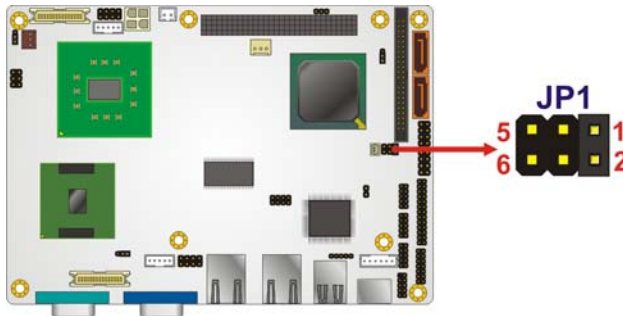

Figure 5-7: COM 2 Function Select Jumper Location
- Jumper Location:** See **Figure 5-7**
The COM 2 Function Select jumper location is shown in **Figure 5-7**.